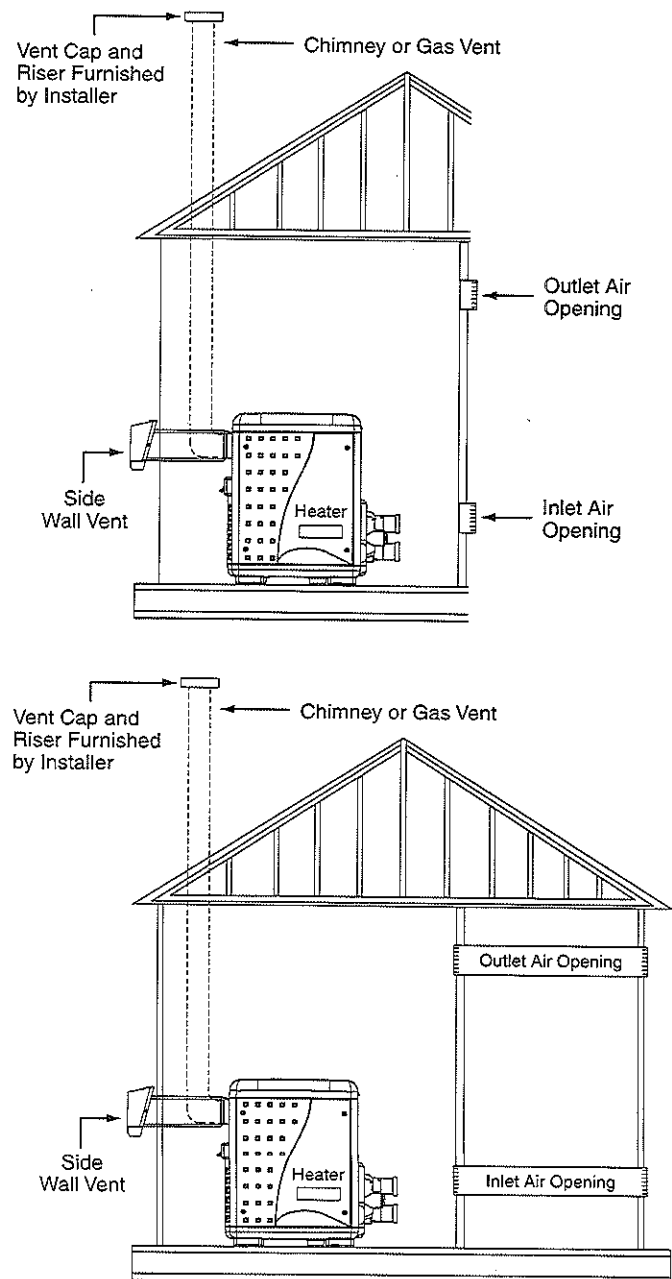

Figure 19/20.
HORIZONTAL OR VERTICAL VENTING - POSITIVE PRESSURE (See Figures 19, 20, & 21)**(Category III)**
6. **Vent Termination – Vertical (See Figures 19 and 20)**, for height of vent termination above the roof. Use an "Approved" vent terminal specified by local and national codes and your manufacturer's instructions. A roof termination must be vertical. In Canada, the Vent Cap location shall have a minimum clearance of 4 feet (1.2M) horizontally from electric meters, gas meters, regulators, and relief openings.